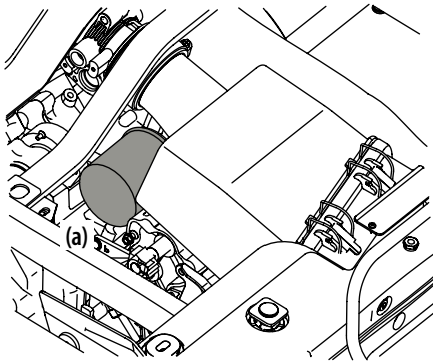

Figure 5-22
2. Remove the oil filter (a). See Figure 5-22.